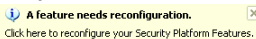

Figure 1
2. The Ultra TPM utility appears in the system tray after it is installed. To create a TPM key and save it to USB flash drive(s), right-click on the Ultra TPM icon and select **Initialize**. A screen in Figure 1 will appear. Select a USB flash drive and click the **Enable Backup to BIOS** ^(Note 1) check box, or select at least two USB flash drives. Click **OK** and then enter the user password ^(Note 2) created with Infineon Security Platform Settings Tool. Click **OK** to store the key on your USB flash drive or in the BIOS.